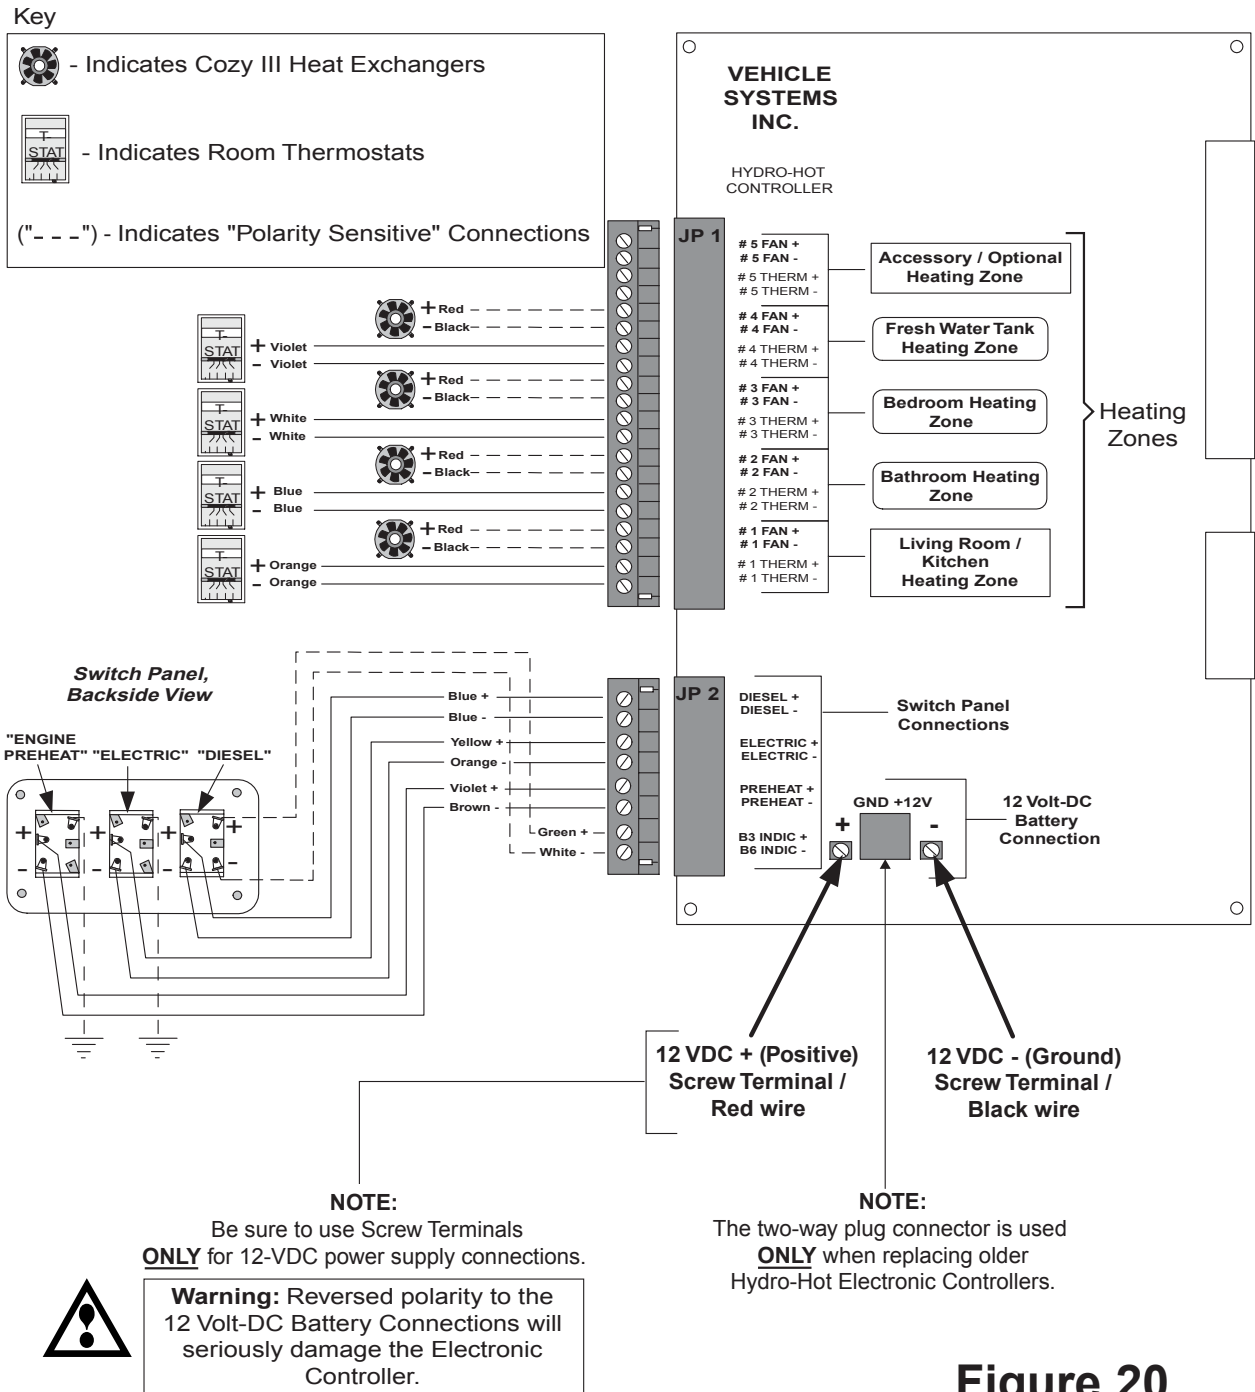

Figure 20
The Hydro-Hot utilizes an Electronic Controller to monitor specific heater activities, supply electrical power to specific internal and external components, and control the overall operation of the heater. The following are important installation details regarding the Electronic Controller. Please read this section thoroughly and reference Figure 20 for specific details.
- A. The dashed lines of Figure 20 indicate **Polarity Sensitive** wiring and the solid lines indicate **NON-Polarity Sensitive** wiring.
- B. All Electronic Controller Thermostat and Switch connections illustrate a "(+)" and "(-)" symbol with solid lines. The "(+)" symbol indicates a positive 12-VDC **output** to a particular Thermostat or Switch, while the "(-)" symbol indicates a positive 12-VDC **input** signal from a particular Thermostat or Switch. The 12-VDC **output** signal is always present as long as the Electronic Controller is powered by a 12-VDC Power Source while the 12-VDC **input** signal is only present whenever a Switch is activated or whenever a Thermostat is "calling-for-heat", see Figure 20.
- E. All Switch connections are to be wired directly to the Hydro-Hot's "Switch Panel Connections", see Figure 20 and 23. Both the "B3 INDIC +" and the "B6 INDIC - " connections are reserved electrically for the "Diesel" Switch connections **ONLY!**
- G. Be sure to use the wire colors illustrated in Figure 20. This will ensure installation consistency, differentiate the separate Heating Zones, and assist Service Personnel with troubleshooting.
3. Insert all Heat Exchanger wires into the appropriate terminal / heating zone location on the Electronic Controller, (e. g. " # 4 FAN + / # 4 FAN -", for the Fresh Water Tank Heating Zone, etc. . .), see Figure 20.
NOTE: Be sure to use the wire colors illustrated in Figure 20. This will ensure installation consistency, differentiate the separate Heating Zones, and assist Service Personnel with troubleshooting.
2. Insert all interior Room Thermostat wires into the appropriate terminal / heating zone locations on the Electronic Controller, see Figure 20.
2. Insert both Thermostat wires into the appropriate terminal / heating zone locations on the Electronic Controller, see Figure 20.
NOTE: Be sure to use the wire colors illustrated in Figure 20. This will ensure installation consistency, differentiate each separate Switch and assist Service Personnel with troubleshooting.